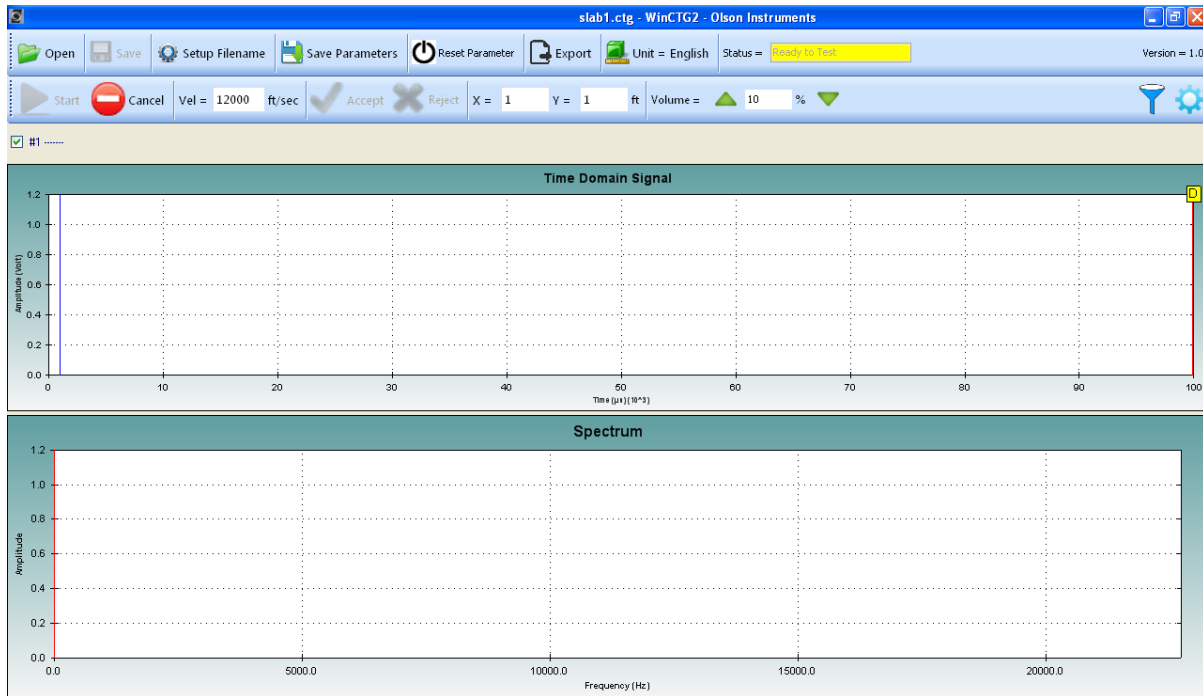

Figure 5 – System Waiting to Receive Data
5. After following the instructions as described above for testing with or without file naming, the system is now waiting to receive data (in the form of an impact) as reported in the “Status” field which is currently in “Ready to Test” mode. (See Figure 5 below.) At this point, the user must be careful not to reposition the IE test head as this will trigger data collection before impact, resulting in invalid data.